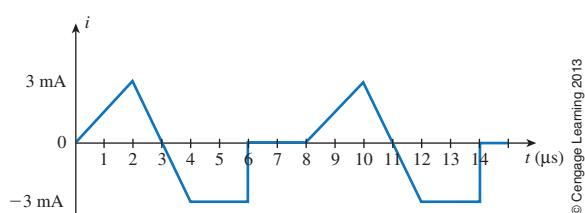

FIGURE 15-78
- Determine the period and frequency for the waveform of Figure 15-78. How many cycles are shown?